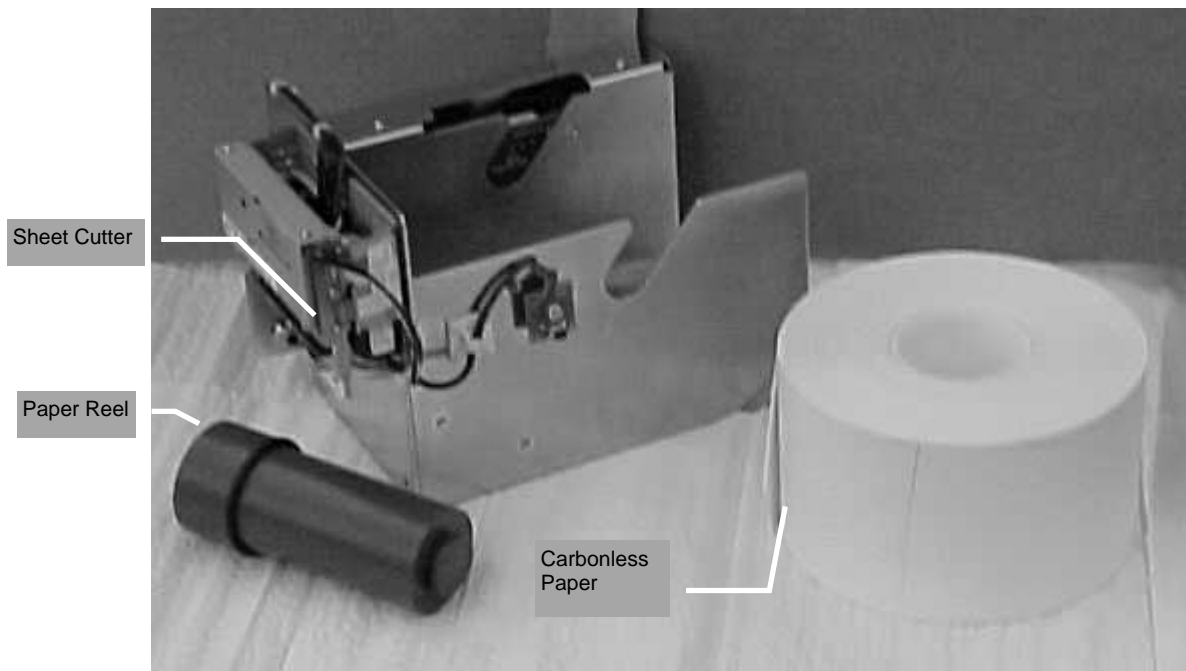

Figure 16
- The other end of the cable located inside of the meter box(s) and coming from the PBC and Timer are terminated at the interface board (See Fig. 11) located in the SNC cabinet using a 3 pin connector using the following connection scheme.(See Fig. 16)